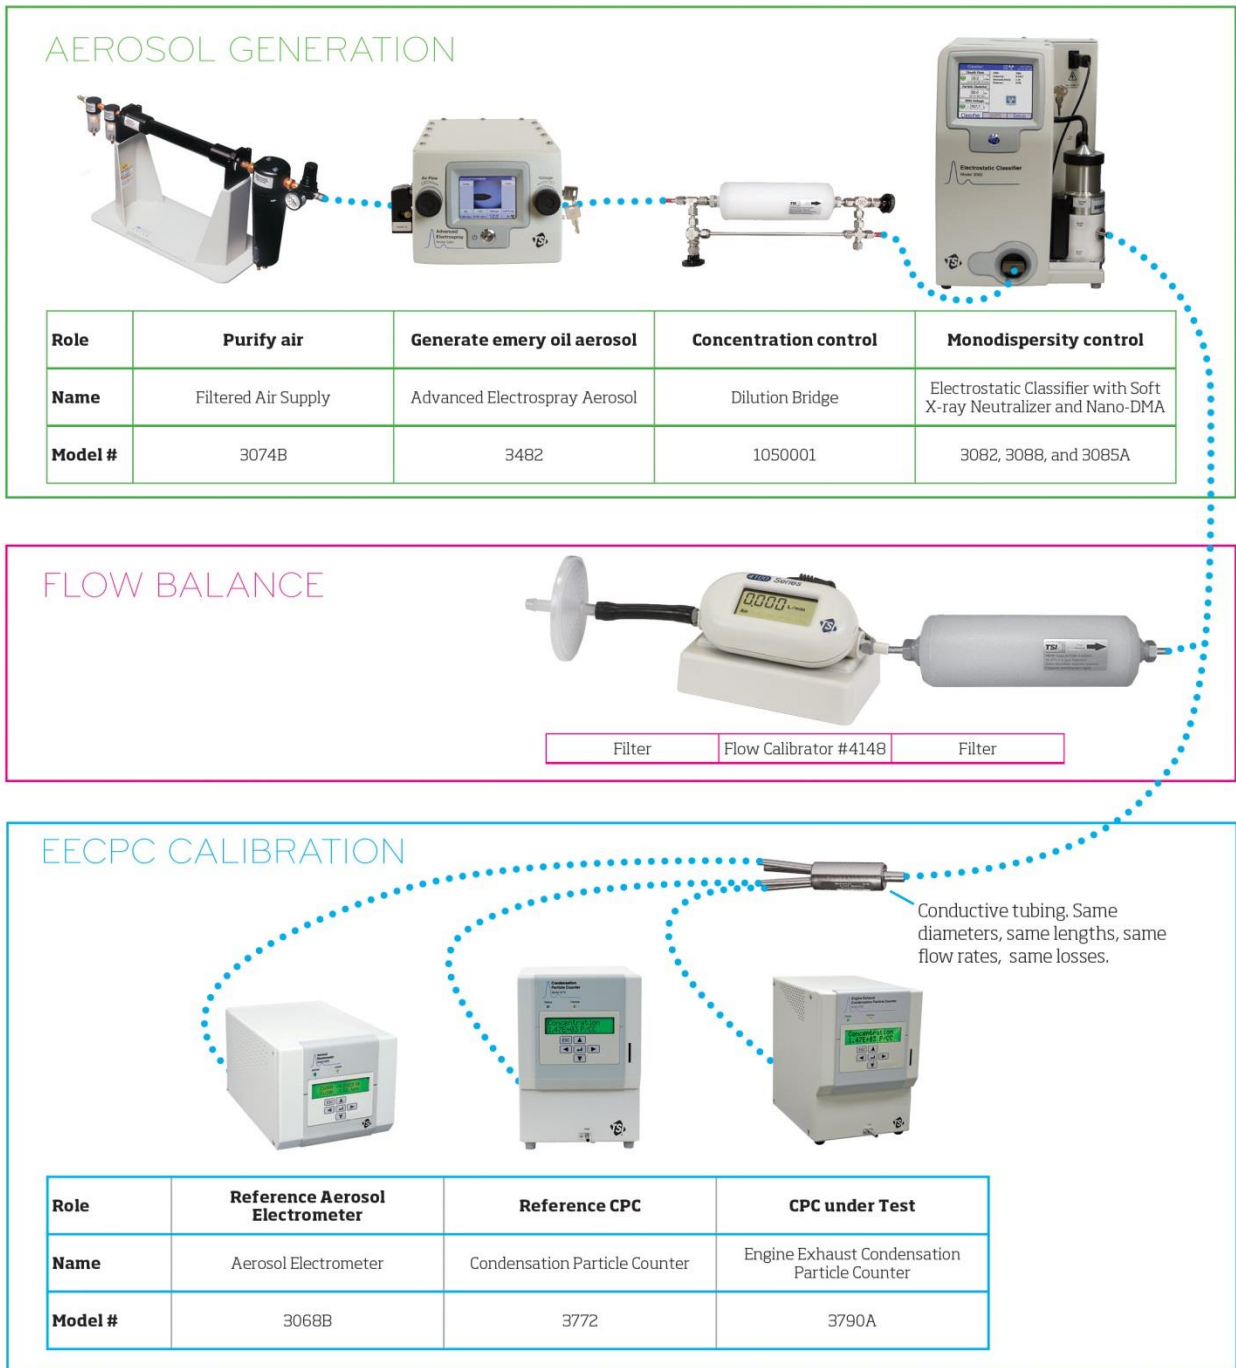

Figure 1: Schematic of the EECPC Calibration Setup
The instruments needed to construct the calibration bench are similar to standard particle instruments from TSI® Incorporated. See Figure 1 for a schematic of the entire calibration process.
- 4148 Flow Calibrator (includes small filter shown in Figure 1) (permits calculation of relative humidity of air presented to aerosol instrumentation, when ambient humidity is known)